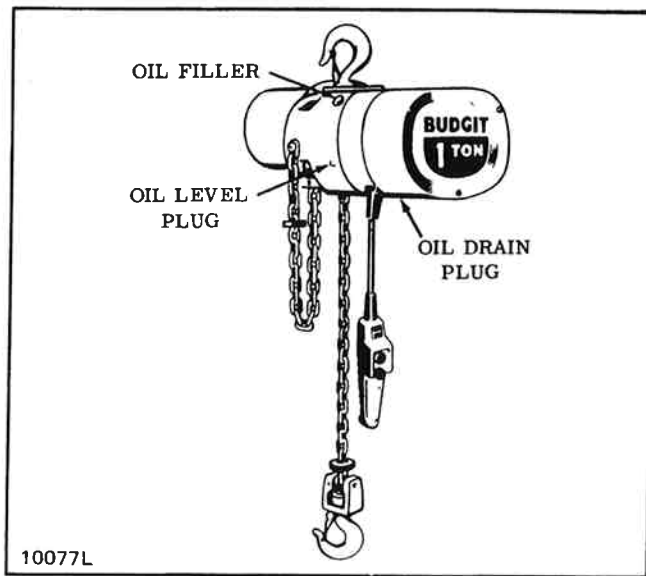

Figure 4-1. Location of Oil Filler and Plugs.
4-2. CHANGE GEAR CASE OIL (Fig. 4-1).
(1) Check to see that bolts securing motor to frame are tight. Also check for any visible damage to motor, such as a cracked end bell or dented stator housing. Replace damaged parts.
(2) Check hoist frame for signs of visible damage. If frame shows evidence of fracture, the hoist should be disassembled and inspected for further signs of damage from possible overloading. Replace damaged parts. Also check condition of limit lever.
(3) Check for possible damage to electrical compartment cover. Be sure screws holding cover are tight.
e. **Check Oil Level.** Remove oil level plug (fig. 4-1). If oil level is not even with bottom of tapped hole, add Automatic Transmission Fluid, DEXRON® II Type, to bring to proper level.
(2) Check control circuit transformer for evidence of overheating. Replace if necessary.
(3) Check control shaft centering spring by operating limit lever. If limit lever does not return to neutral position after it is tripped, the spring is probably broken or control shaft is bent. Replace broken or damaged parts.
(4) Check limit switch to see that wires are securely soldered and mounting screws are tight.
(5) Check contactor solenoid coils and replace coils if they show evidence of overheating.
(6) Check control cable wire strain reliever to see that it is in good condition and securely attached to gear case cover. Replace rubber strain reliever grommets if damaged.